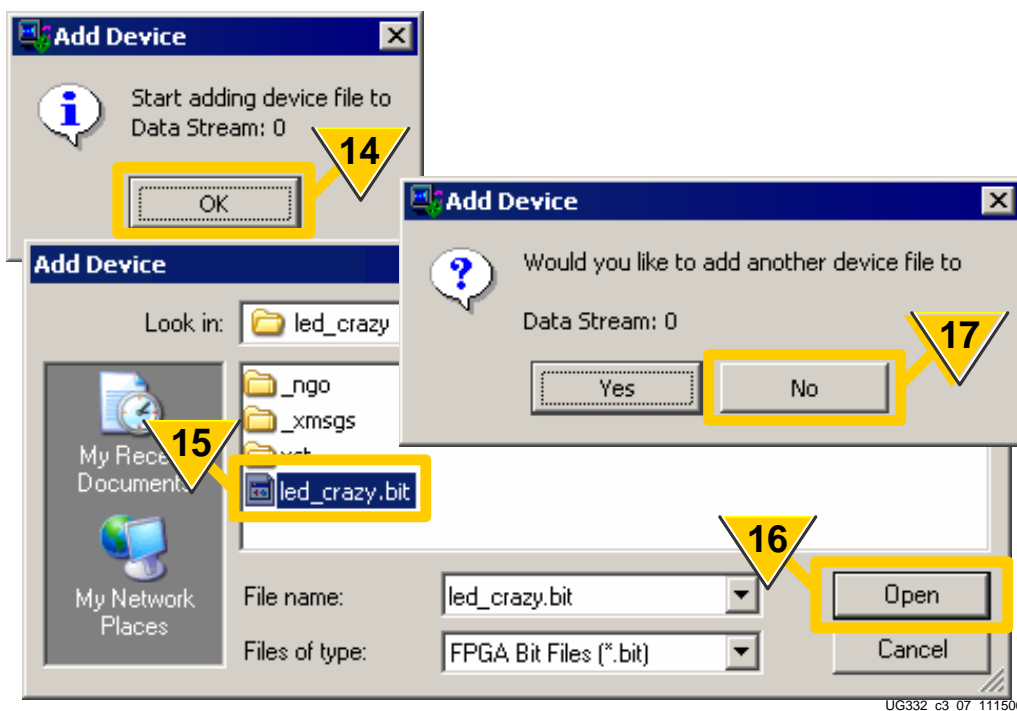

Figure 3-12: Add FPGA Configuration Bitstream File(s)
14. As shown in Figure 3-12, click **OK** to start adding bitstream files.